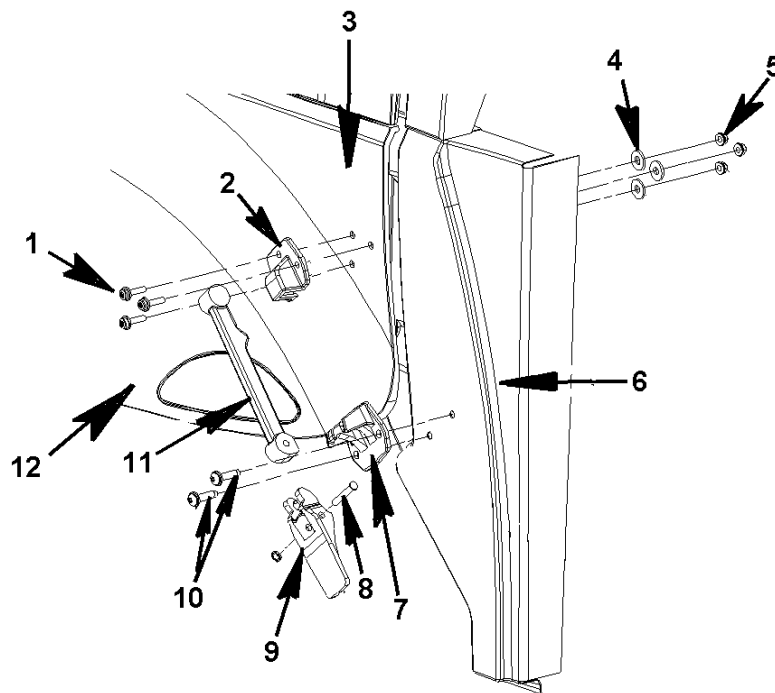

Figure 56 Hood / Fender Latch Attachment — Driver Side Shown
The upper hood latch attachment assembly (Figure 56, Item 2) is located at the rear side section of the hood assembly. The latching arm assembly (Figure 56, Item 11) is attached to the side hood mounting bracket. This part swings down and latches on the lower catch cowl bracket assembly (Figure 56, Item 7) and secures the hood in position. To remove the latch assembly:
2. Loosen and remove the hood latch bracket mounting bolts, washers and lock nuts (Figure 56, Items 1 and 5) and remove the bracket assembly (Figure 56, Item 2) from the hood assembly.
3. Locate, loosen and remove the mounting bolts, washers and lock nuts (Figure 56, Item 10) securing the cowl latch base (Figure 56, Item 7).